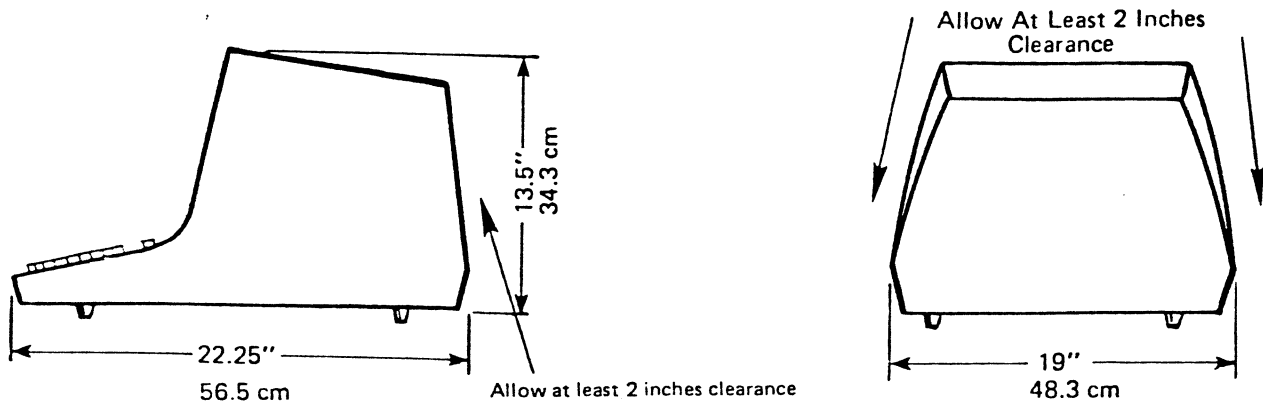

Figure 2-1A B150/B157 Mounting Requirements
**CAUTION:** Do not place the terminal on any surface that will block cooling air from the bottom or back of the cabinet. The terminal is provided with an internal fan for cooling. Air enters through slots in the bottom and out of slots provided in the rear of the terminal case. To maintain efficient air circulation, keep at least two inches of clearance at the rear and on the sides of the terminal (see Figures 2-1A and B).